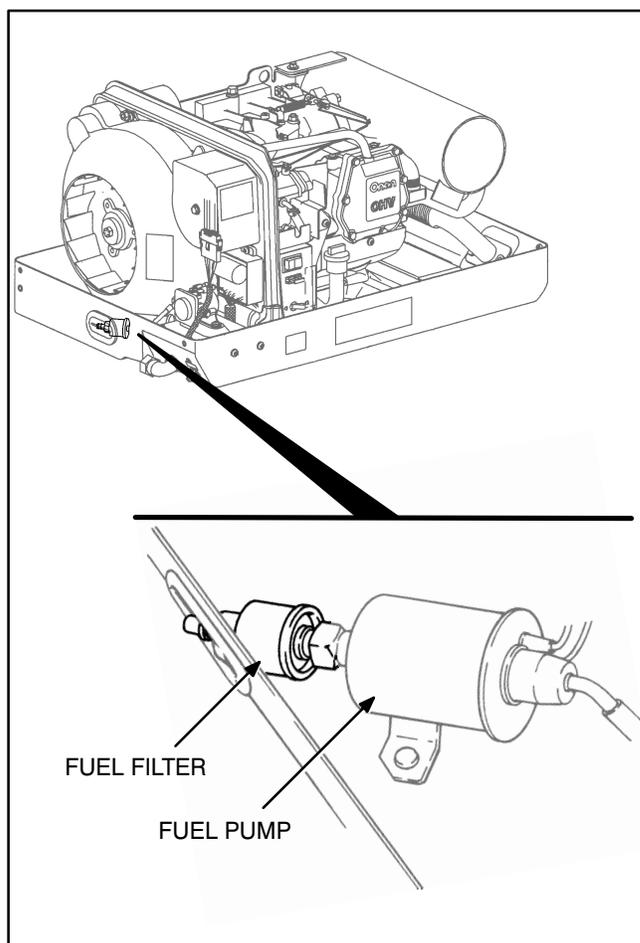

FIGURE 8-11. FUEL FILTER REPLACEMENT
1. Close the fuel supply valve (if so equipped) or remove the fuel line from the fuel filter. Plug the end of the fuel line to prevent fuel leakage and vapor accumulation. See Figure 8-11.